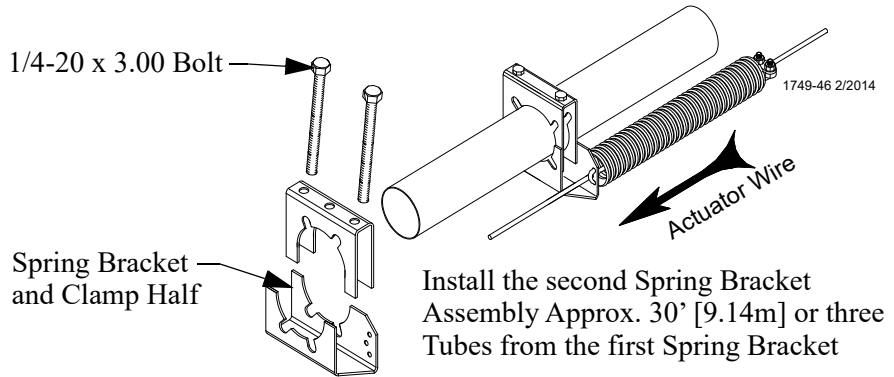
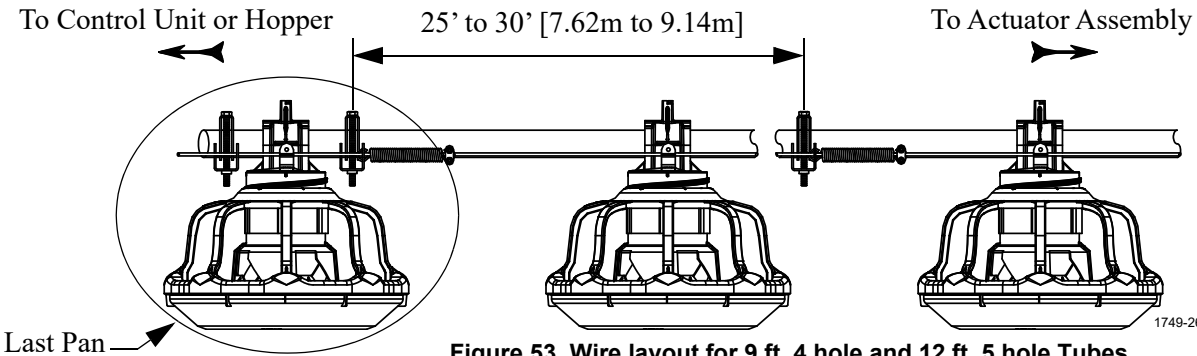

Figure 51. Terminal Spring Bracket
Figure 53. Wire layout for 9 ft. 4 hole and 12 ft. 5 hole Tubes
1. Install the terminal Spring and Bracket (using (2) 1/4-20 x 3 inch hex bolts) at the control unit, see **figure 51 and 54**. If necessary the last pan may need to be setup to push the vari-brood opening, See **Figure 53**.
3. Brackets will be installed using (2) 1/4-20 x 3 inch hex bolts.